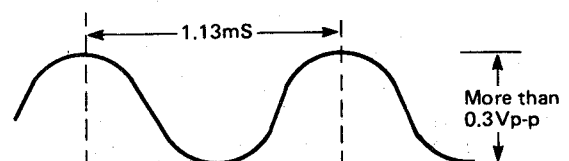

Figure 86.
2. Observe the output of TP-717, and check its values are as shown in Fig. 86.